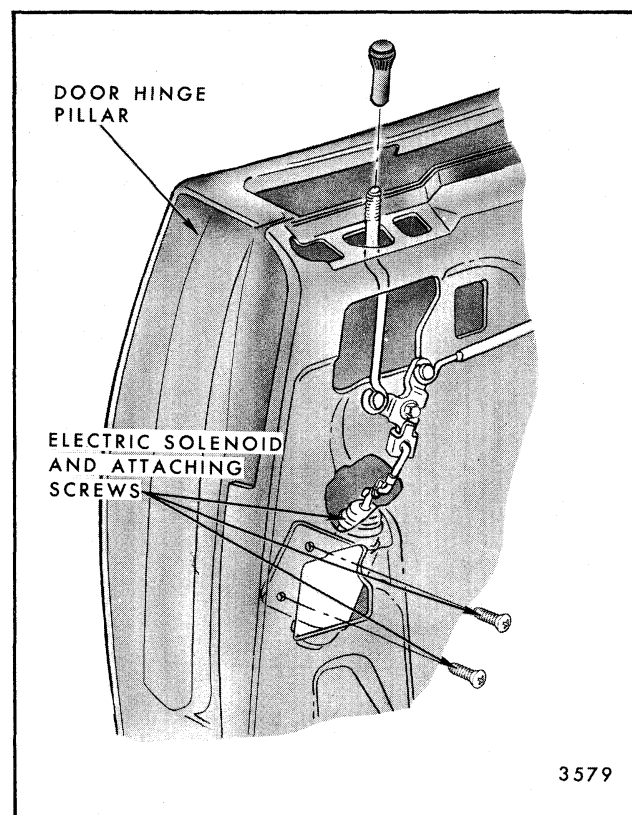

Fig. 5-38-Rear Door Lock Electric Solenoid Installation - "B-C" Styles Shown ("A" Styles Similar)
3. On rear doors, remove solenoid attaching screws and connecting link attaching clip on locking rod bellcrank. Disconnect wire harness at solenoid and remove solenoid (Fig. 5-38).